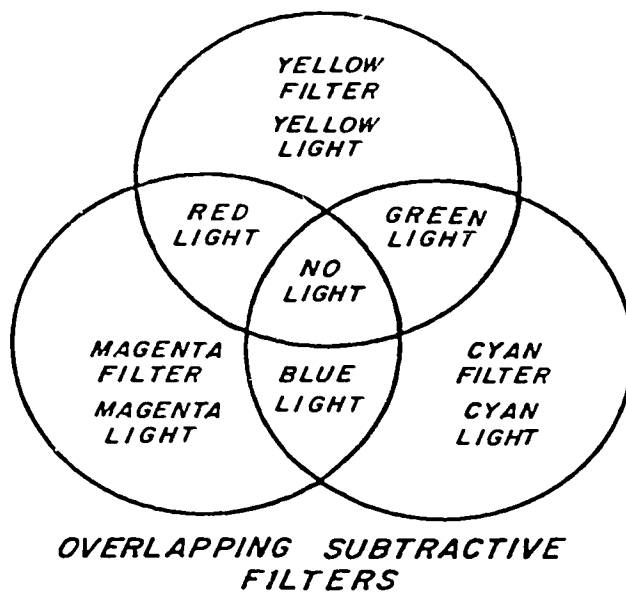

Figure 5-2. Additive and subtractive filters.
**Filter Application.** By using a filter over a camera lens, we can employ what is known as subtractive color filtration. As this is explained, you should carefully study figure 5-2.